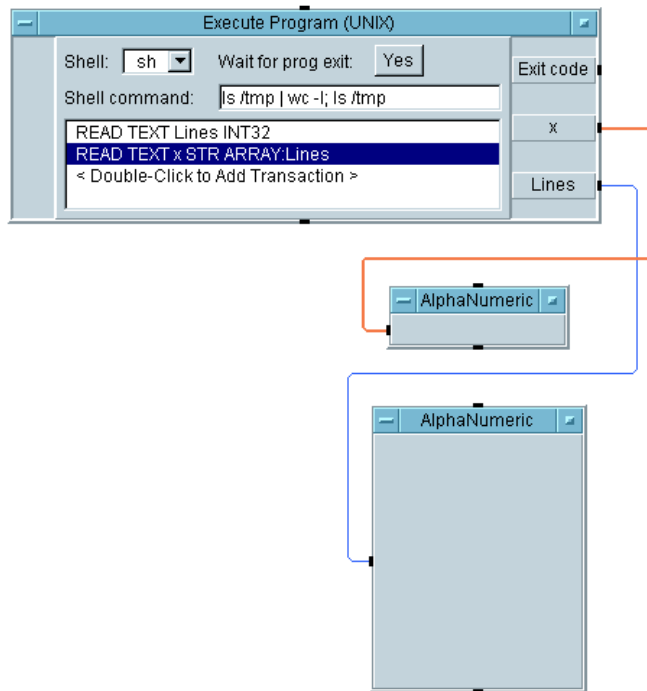

Figure 7-5. Using a Shell Command with a Pipe
3. Run the program. It should look like Figure 7-5.